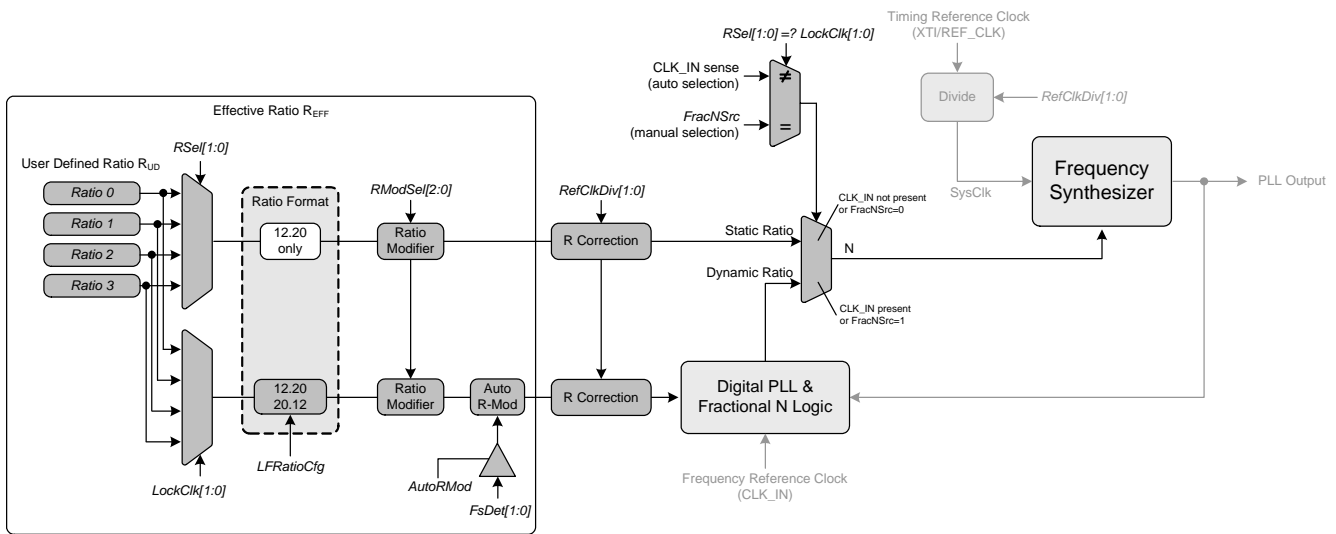

Figure 14. Ratio Feature Summary
To select between the static ratio based Frequency Synthesizer Mode and the dynamic ratio based Hybrid PLL Mode, the source for the fractional-N value for the Frequency Synthesizer must be changed. The Fractional-N value can either be sourced directly from the Effective Ratio (static ratio) or from the output of the Digital PLL (dynamic ratio) (see Figure 14 on page 21). The setting of this function can be made manual or automatically depending on the presence of CLK_IN.
The R_{UD} is the user defined ratio for which up to four different values ($Ratio_{0-3}$) can be stored in the register space. The $RSel[1:0]$ or $LockClk[1:0]$ bits then select the user defined ratio to be used (depending on if static or dynamic ratio mode is to be used). The resolution for the R_{UD} is selectable, for the dynamic ratio mode, by setting $LFRatioCfg$. R-Mods can be applied to both modes whereas Auto R-Mod is only available in dynamic mode. The user defined ratio, ratio modifier, and automatic ratio modifier make up the effective ratio R_{EFF} , the final calculation used to determine the output to input clock ratio. The effective ratio is then corrected for the internal dividers. The frequency synthesizer's fractional-N source selection is made between the static ratio (in frequency synthesizer mode) or the dynamic ratio generated from the digital PLL (in Hybrid PLL mode) by either the $FracNSrc$ bit for manual mode or the presence of CLK_IN in automatic mode. The conceptual diagram in Figure 14 summarizes the features involved in the calculation of the ratio values used to generate the fractional-N value which controls the Frequency Synthesizer.
- Changes made to the registers which affect the Fraction-N value that is used by the Frequency Synthesizer. This includes all the bits shown in Figure 14 on page 21.